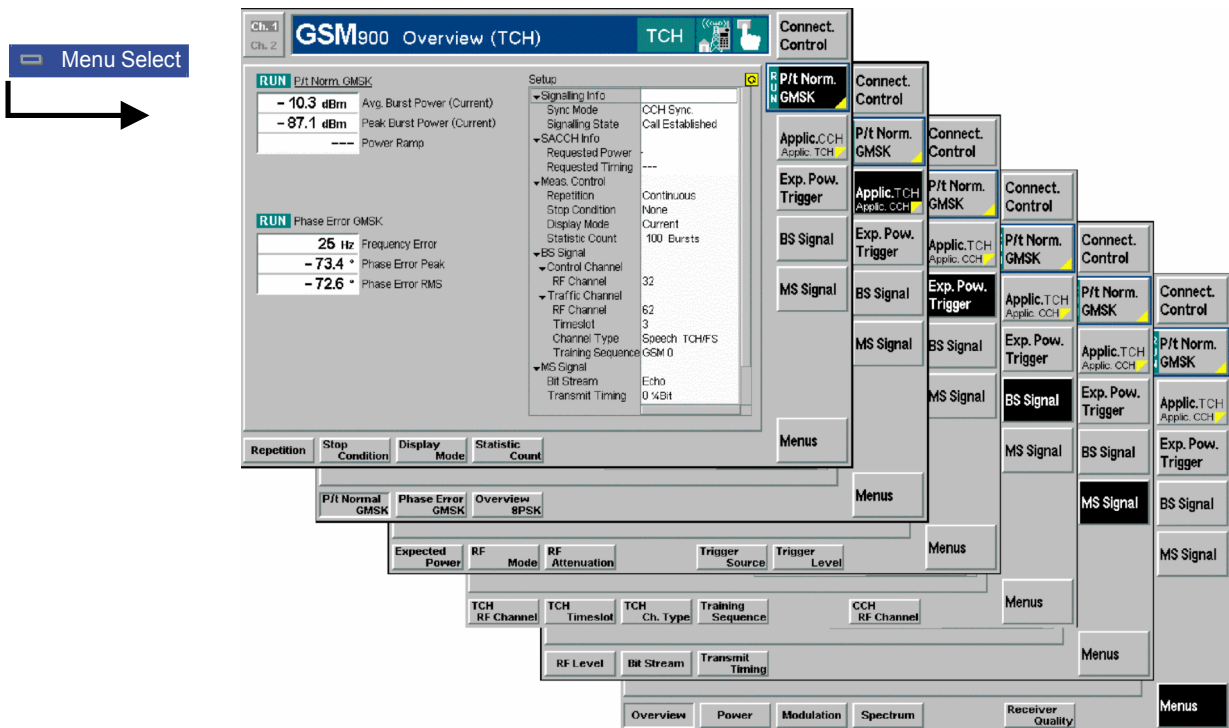

Fig. 4-42 Function overview – Overview
- The other softkeys on the right side are combined with various hotkeys (see Fig. 4-42 below). The softkey/hotkey combinations provide test settings and switch over between different measurements.